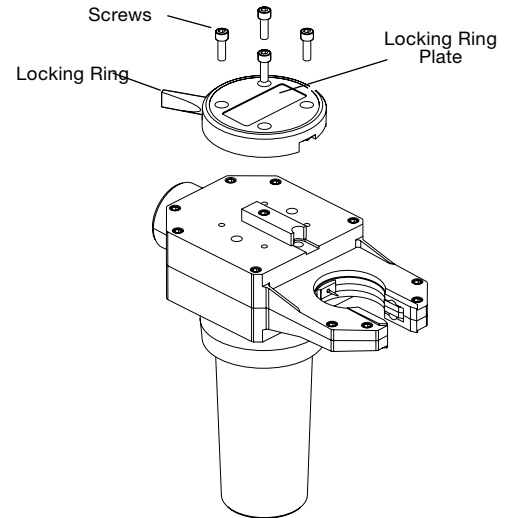

Figure 26 Removing the Locking Ring and Locking Ring Plate
2. Remove the four screws, locking ring, and locking ring plate. See Figure 26.